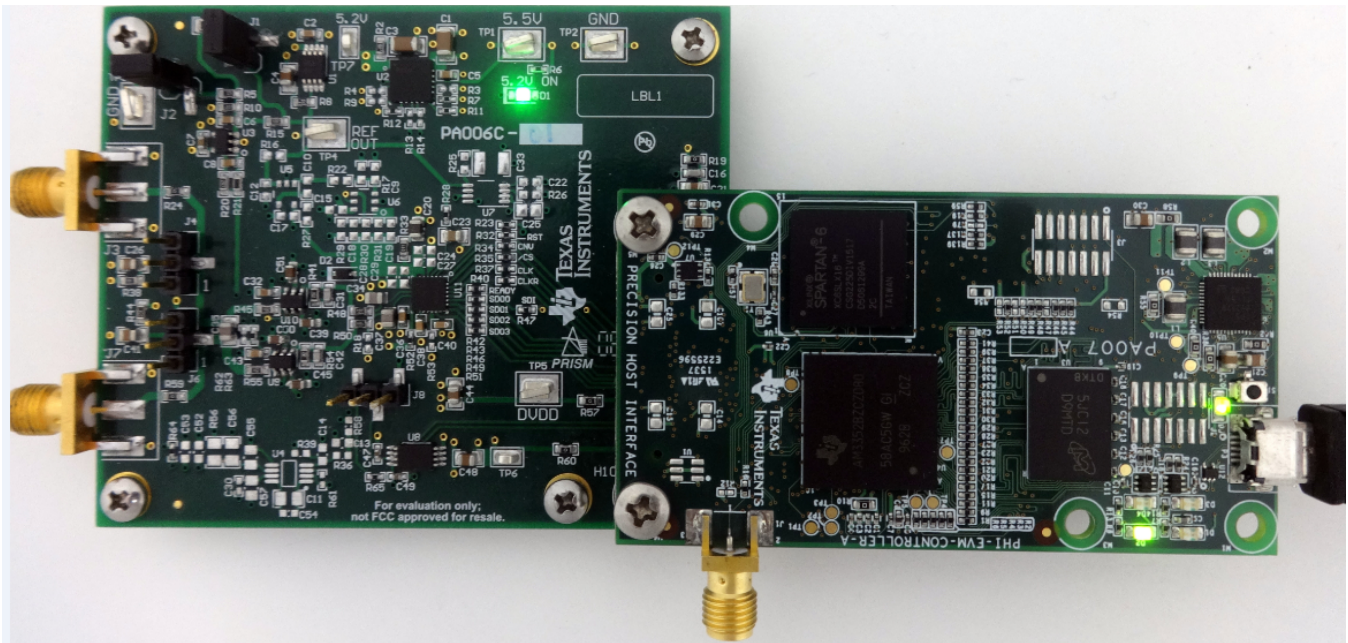

Figure 7. EVM-PDK Hardware Setup and LED Indicators
1. Connect the ADS8920BEVM to the PHI. Install the two screws as indicated in Figure 7.
- LEDs D1 and D2 on the PHI starts blinking to indicate that the PHI is booted up and communicating with the PC. The resulting LED indicators are shown in Figure 7.